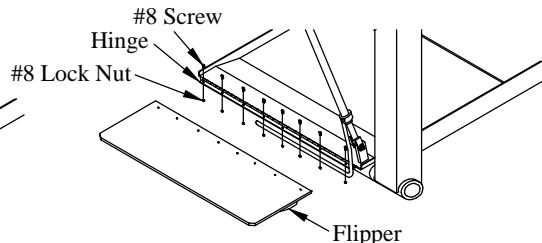

Figure 27: Flipper hinge hardware.
12. **Attach** the flipper to the hinge on the platform using eight (8) 8-32x1/2" screws and 8-32 nylon lock nuts (Figure 27).